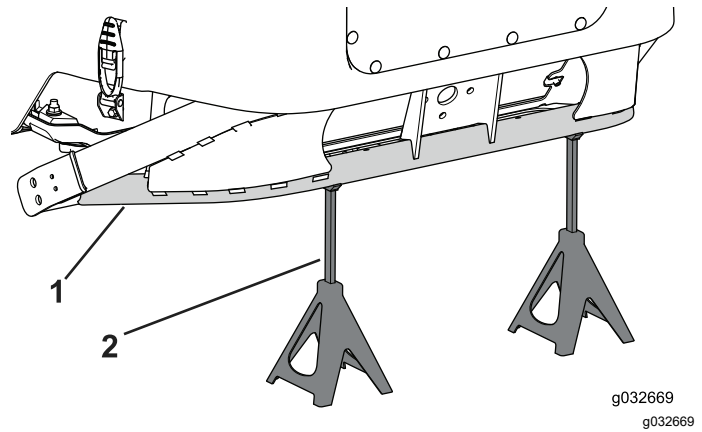

Figure 85
1. Place 2 jack stands underneath the rear of frame to support the machine when you lift the front of the machine (Figure 85).